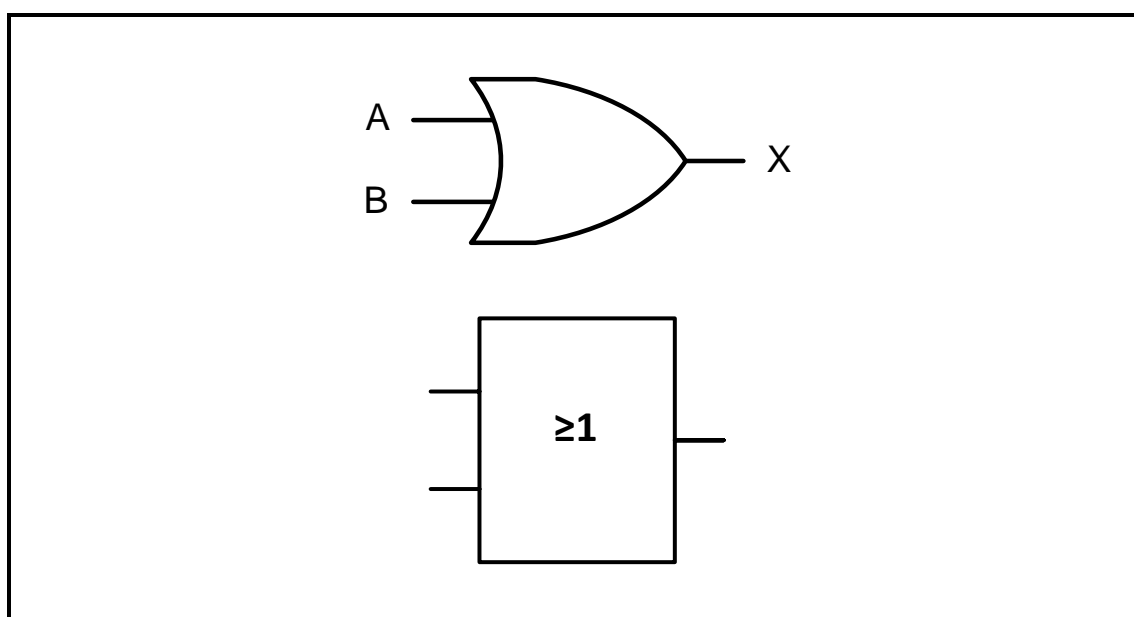

FIGURE 7.2: LOGIC GATE
7.2 Refer to FIGURE 7.2 below of the symbol of a logic gate and answer the questions that follow.
7.2.1 Identify the logic gate in FIGURE 7.2 above. (1)